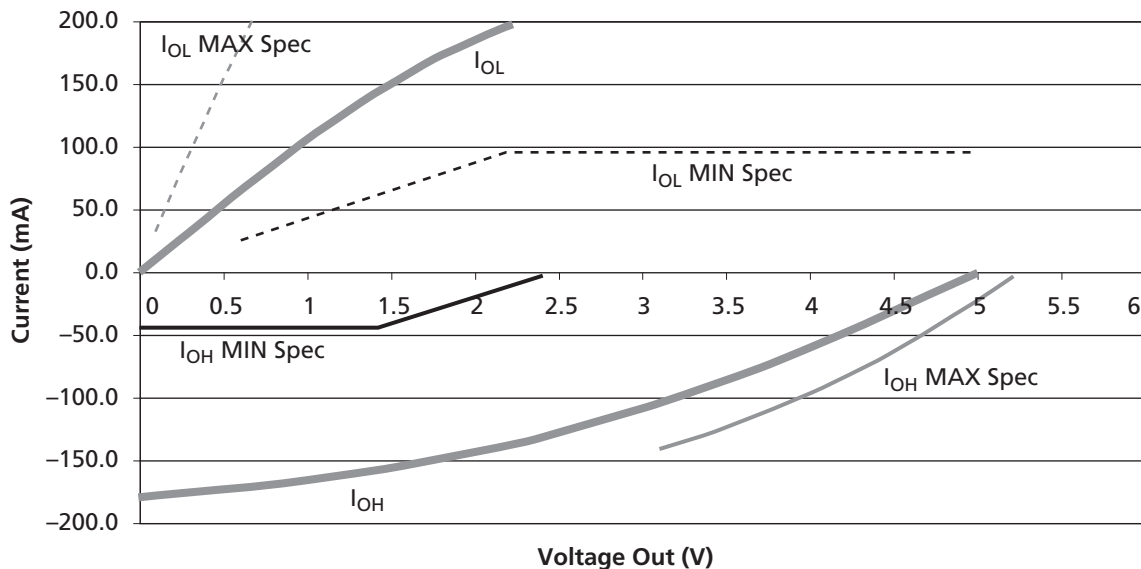

Figure 1-11 • 5 V PCI Curve for HiRel SX-A Family
Figure 1-11 shows the 5 V PCI V/I curve and the minimum and maximum PCI drive characteristics of the HiRel SX-A family.
1. Refer to the V/I curves in Figure 1-11 on page 1-12. Switching current characteristics for REQ# and GNT# are permitted to be one-half of that specified here; i.e., half-size output drivers may be used on these signals. This specification does not apply to CLK and RST#, which are system outputs. "Switching Current High" specifications are not relevant to SERR#, INTA#, INTB#, INTC#, or INTD#, which are open drain outputs.